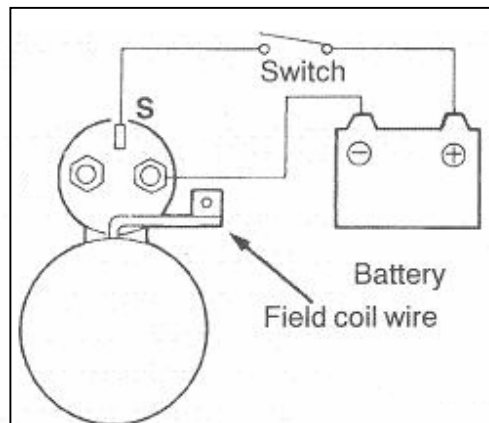

Fig. 9-7
3) Magnetic switch hold-in test (see Fig.9-7)